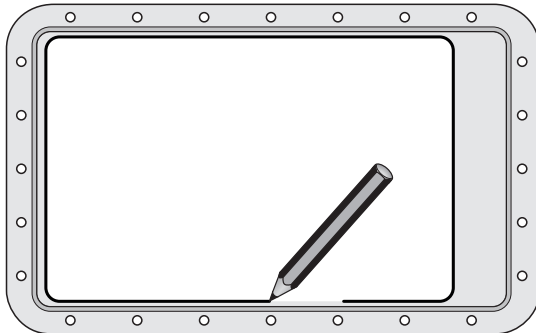

Fig.3
- Remove the counter flange and mark the cutting area: (fig.3)